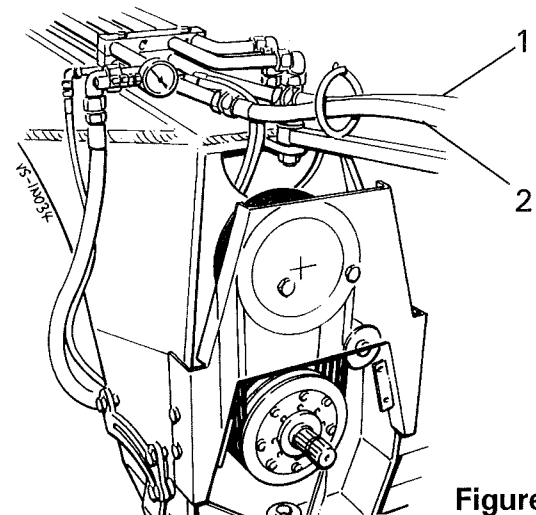

Figure 2
1. Connect the hydraulic return hose marked blue (item 1, figure 2) to the tractor manufacturer's recommended low back pressure return coupling.
2. Connect the pressure hose marked red (item 2, figure 2) to the tractor outlet recommended for constant supply. If in doubt, refer to the tractor handbook. If the flow is adjustable, it should be set to supply a minimum 50 litres/minute. The harvester hydraulics will accept up to 80 litres/minute maximum.